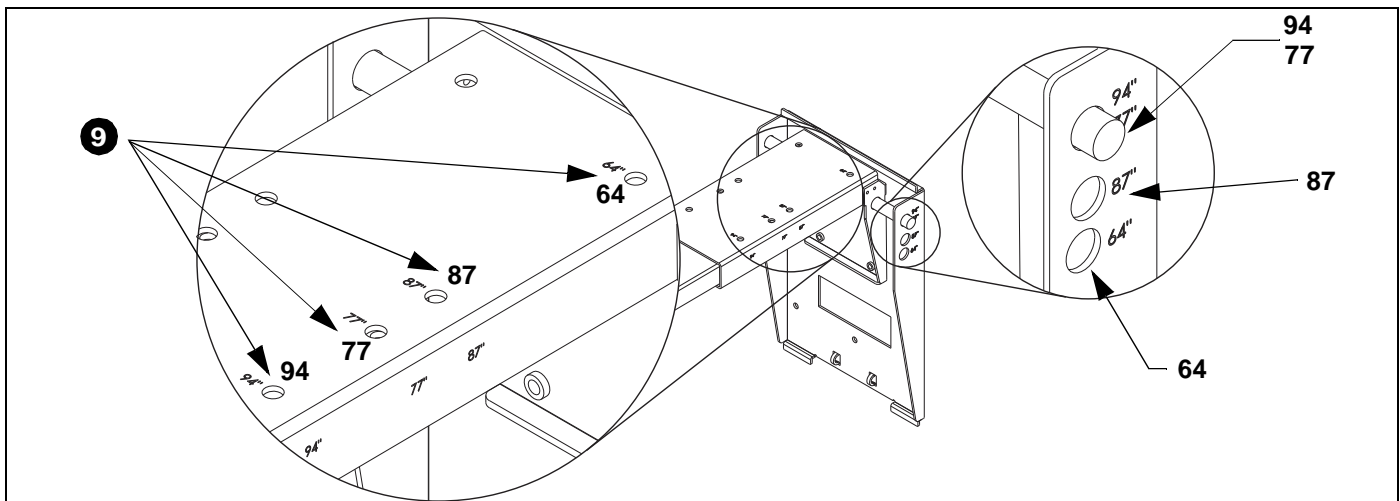

Figure 7
See Figure 7 for boom arm positioning
9. Use the hardware (saved in Step 1) to connect the boom arm to the SMART board mount. (See Figure 7)